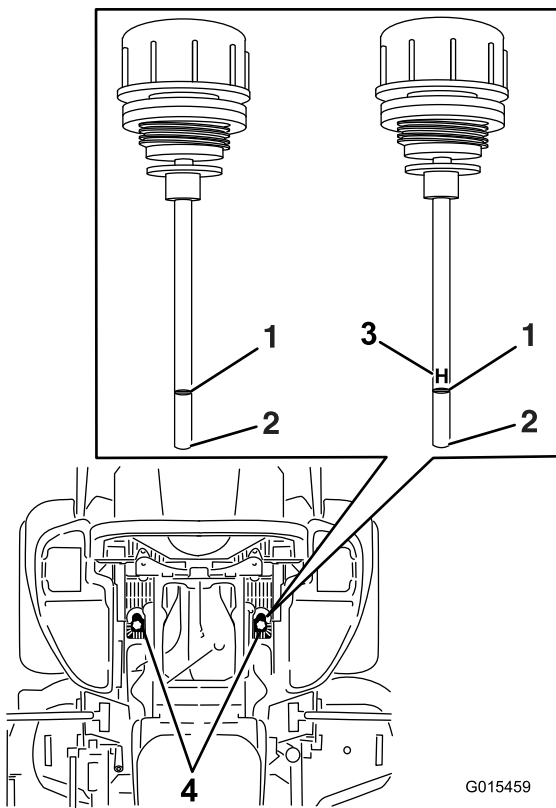

Figure 82
6. Clean the area around the dipsticks of the hydraulic system reservoirs (Figure 82).
7. Remove 1 dipstick from the hydraulic reservoir (Figure 82).
9. Remove the dipstick and look at the end (Figure 82).